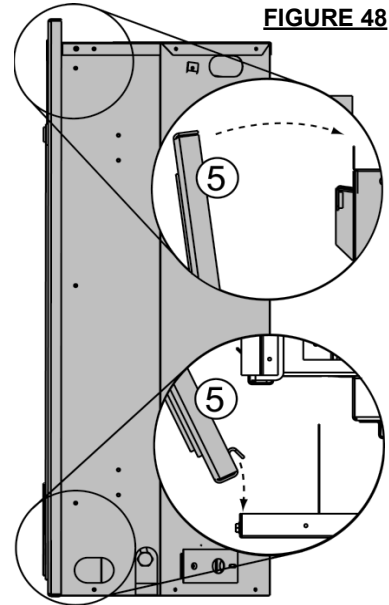

FIGURE 48
3. Hook the bottom of the front facing ⑤ on the bottom lip of the firebox. Pivot the front facing against the firebox and insert the head of the turn button ⑦ through the slot in the front facing. (FIGURE 48) Secure by turning the head of the turn button 1/4 turn.